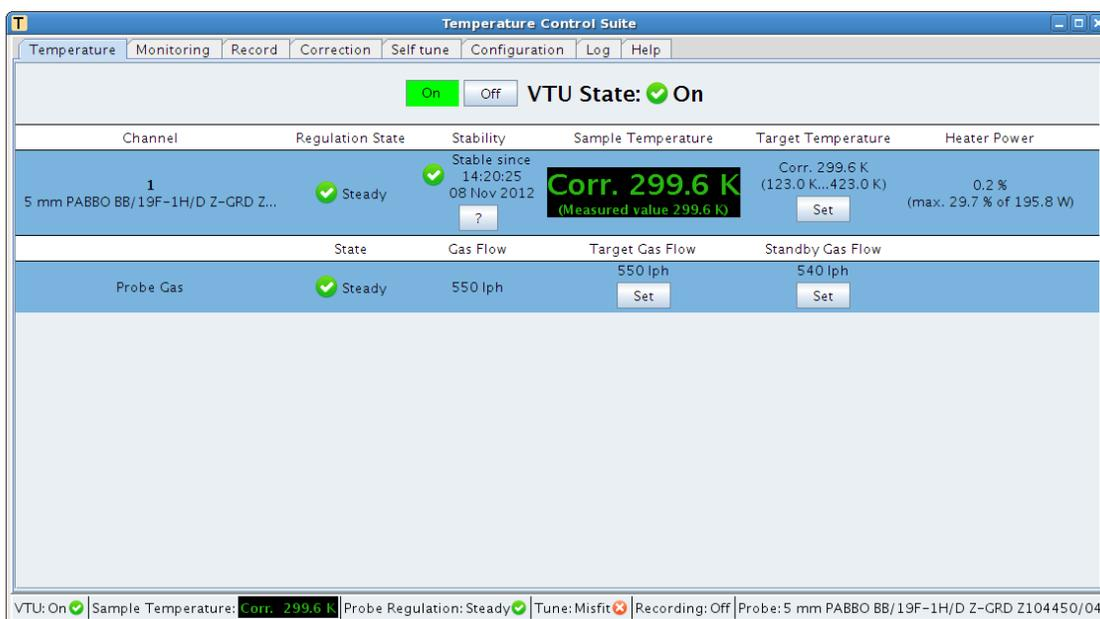

Figure 2: Temperature Control Suite
1. In the command line of the TopSpin Software Interface, type *edte* and a Temperature Control Suite window appears as shown in Figure 2. The **Temperature** Tab contains VTU State (**On** or **Off** buttons), *Sampler temperature*, *Target Temperature* with a **Set** button. It also shows the probe gas supply with adjustable Target Gas Flow
- After *Correction and Self-Tune* file are selected, click on **Temperature** Tab (Figure 2), in *Target Temperature* column, click **Set** to set a sample temperature Kelvin as shown in Figure 5. In this example, the target temperature is changed from 300.1 K to 320 K. Click on **OK** to set the sample target temperature.